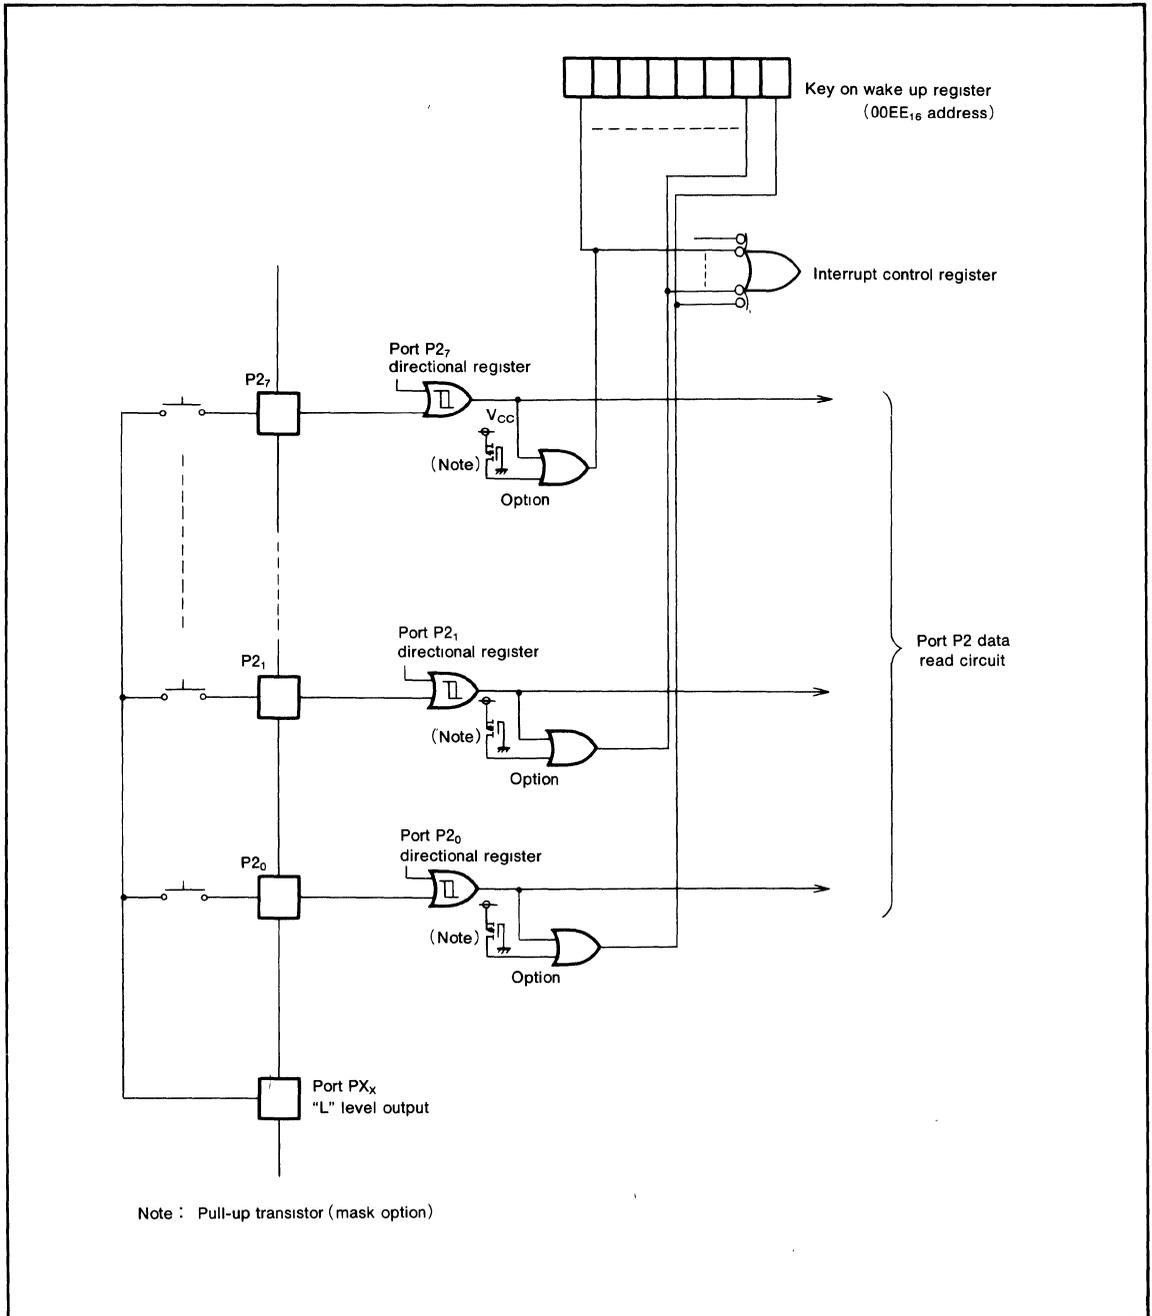

Fig. 22 Block diagram of port P2, and example of wired at used key on wake up
As shown in Figure 22, if the key matrix of active "L" to input port P2 is constructed, the microcomputer is returned to normal operating state by the key push. Refer to the section of interrupt how to use the key on wake up function. In order to enter the power down state generated by the STP or WIT instruction at the interrupt disable flag (I) is "0" and IC_4 is "1", the input designated as key on wake up by option in port P2 must be all "H".